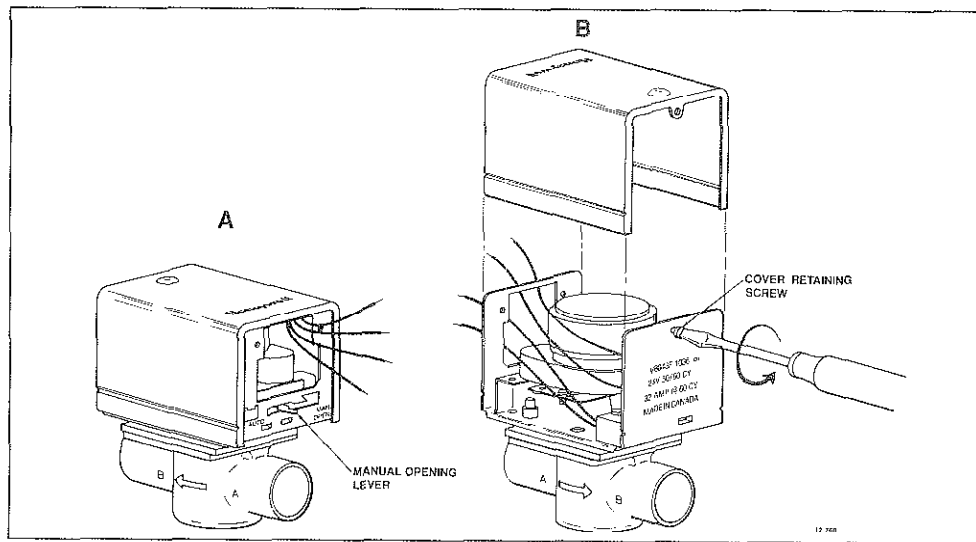

Fig. 5—Remove old powerhead from new style valve body.
3. Remove old powerhead (see Fig. 5)---